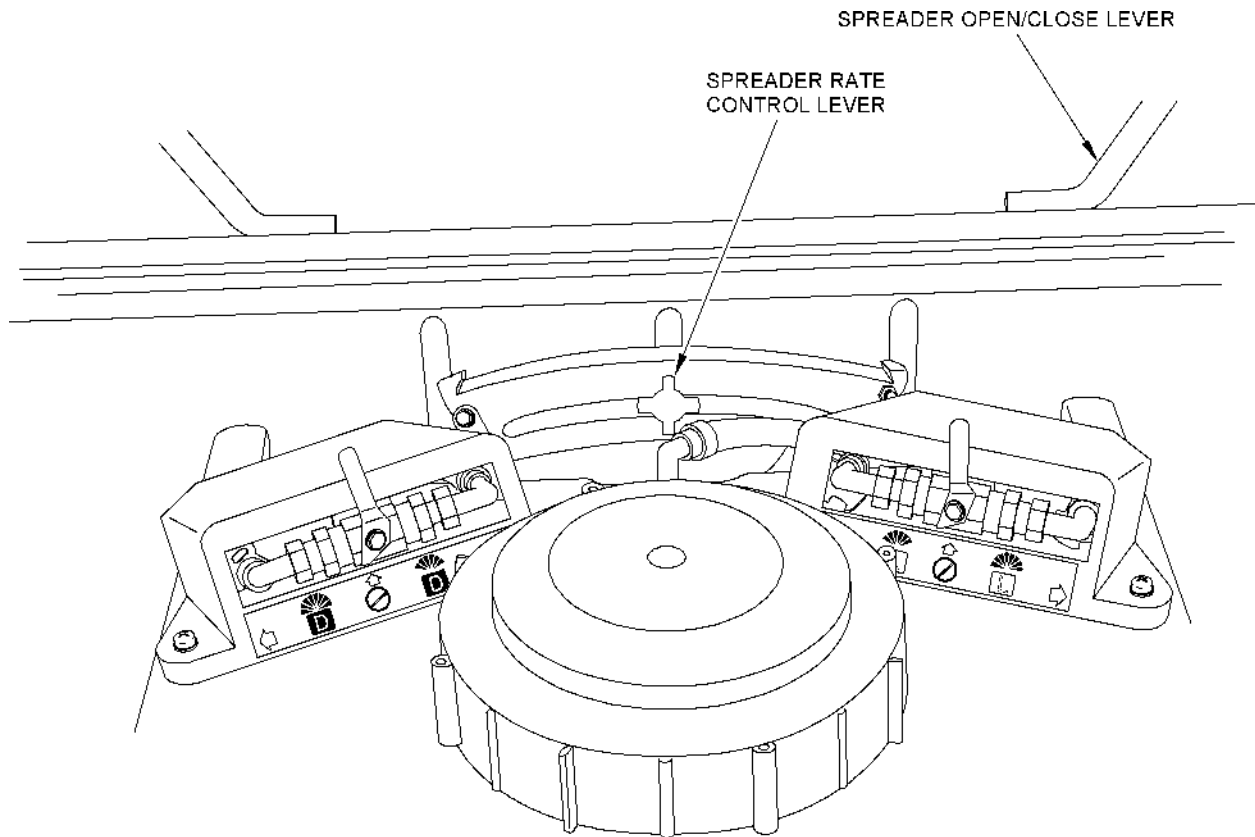

Figure 8. Spreader Rate Lever and Open/Close Lever
- a. Place the rate control arm in the numbered setting determined during calibration for the product to be spread (refer to Figure 8). Select the setting that corresponds to the operating speed you will use (either DRIVE gear or low gear).